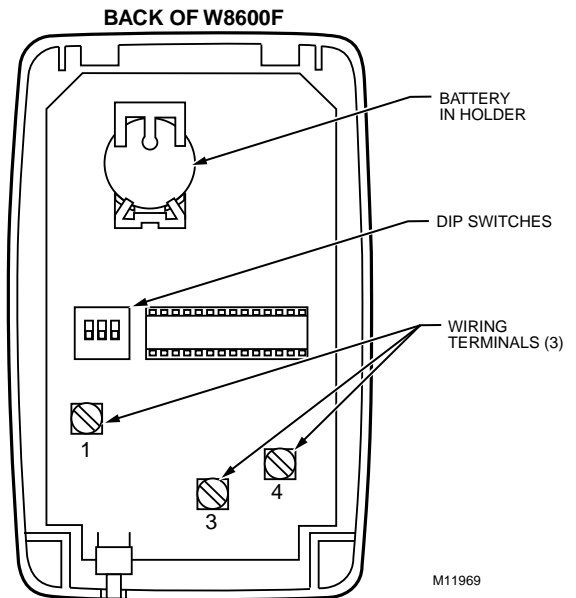

Fig. 10. Back of W8600F.
Refer to Table 4 to select the wash frequency. Set the W8600F DIP switches to match the selection. See Fig. 10. The time listed represents actual run time of the EAC, not calendar days.
2. Connect the wires to terminals 1, 3 and 4 on the W8600F. See Fig. 10.